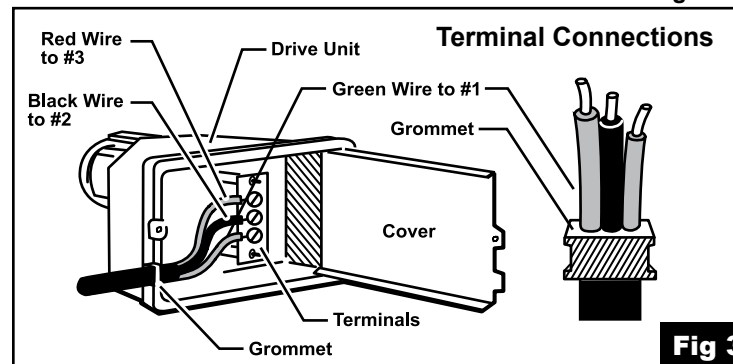

Fig 3
- Connect rotator cable to drive unit terminal board. See Fig 3.